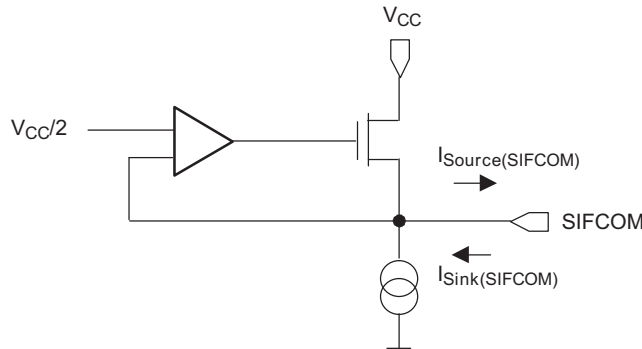

Figure 20. P6.x/SIFCHx Timing, SIFCHx Function Selected
- (1) The sink and source currents are a function of the voltage at the pin SIFCOM. The maximum currents are reached if SIFCOM is shorted to GND or V_{CC} . Due to the topology of the output section (see Figure 20) the $V_{CC}/2$ generator can source relatively large currents but can sink only small currents.